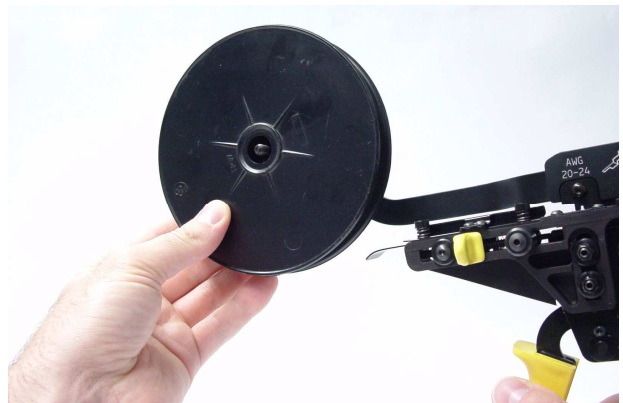

Figure 6
**3.** The reel is now fixed to the holder with the help of the knurled nut (see figure 6).